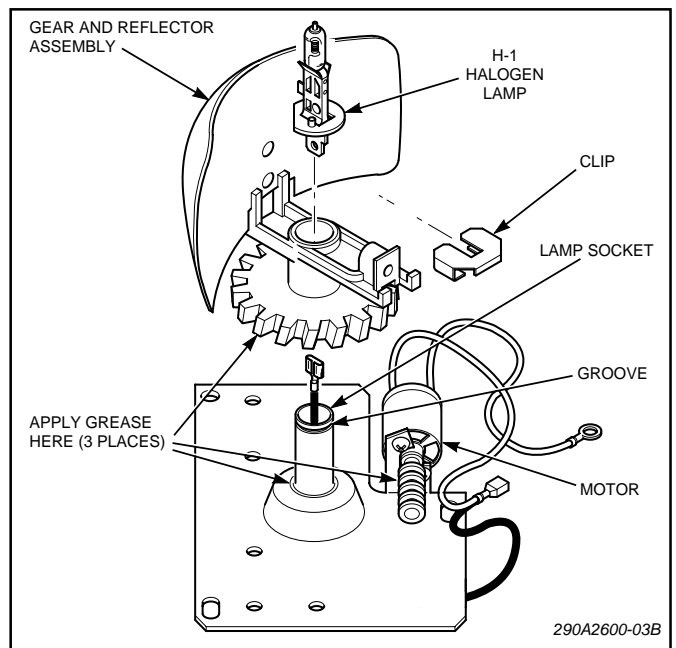

Figure 10.
All gears should be greased at least twice a year. Use medium consistency Dow Corning DC33 or equivalent type grease. Proceed as follows (see figure 10):
2. Lift-off reflector and worm gear. Lubricate with grease as shown in figure 10.